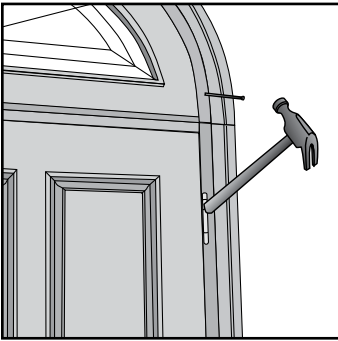

Fig. 40
- K. To secure transom sash to jamb, set quarter round stop and fasten with 1-1/2" finish nails (**Fig. 40**).